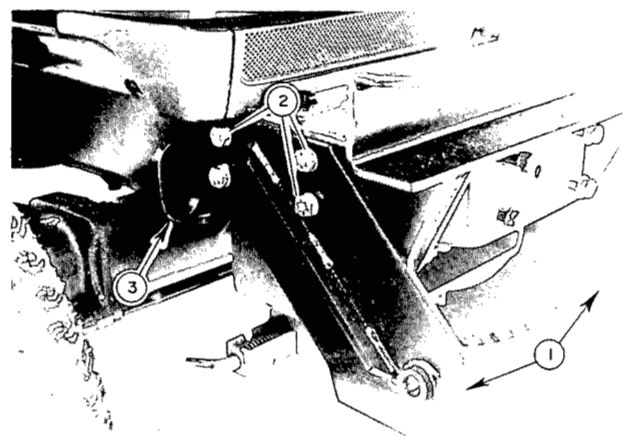

FIGURE 8
- b) Install quick hitch front brackets (fig.8, item 1) on the tractor engine side rails.
- If your tractor is already equipped with loader and mid mount mower, remove the existing eight bolts from the front brackets on the engine side rails, one side at a time, and replace with seven 12mm x 50mm bolts (fig.8, item 2) and lockwashers, placing two quick hitch front brackets on the outside of the loader brackets. Tighten lightly.
- c) Install one hose support bracket (fig.8, item 3) on right hand front support bracket, in the lowest rear hole, using a 12mm x 60mm bolt and lockwasher through support bracket and tractor frame.